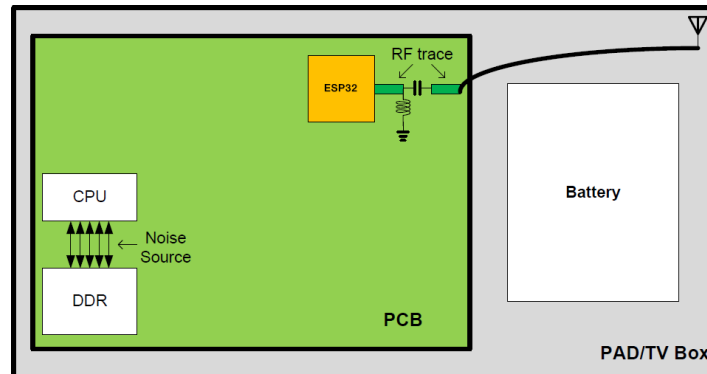

Figure 16: PAD/TV Box Layout
- As can be seen in Figure 16, ESP32 should be placed near the edge of the PCB and away from the CPU and DDR, the main high-frequency noise sources. The distance between the chip and the noise sources decreases the interference and reduces the coupled noise.